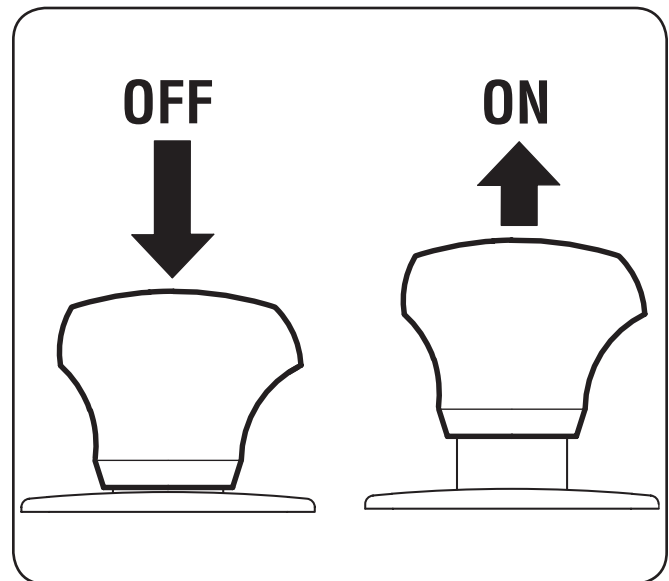

Figure 5-4
2. Pull the PTO/Blade Engage knob outward into the engaged (ON) position. See Fig. 5-4.